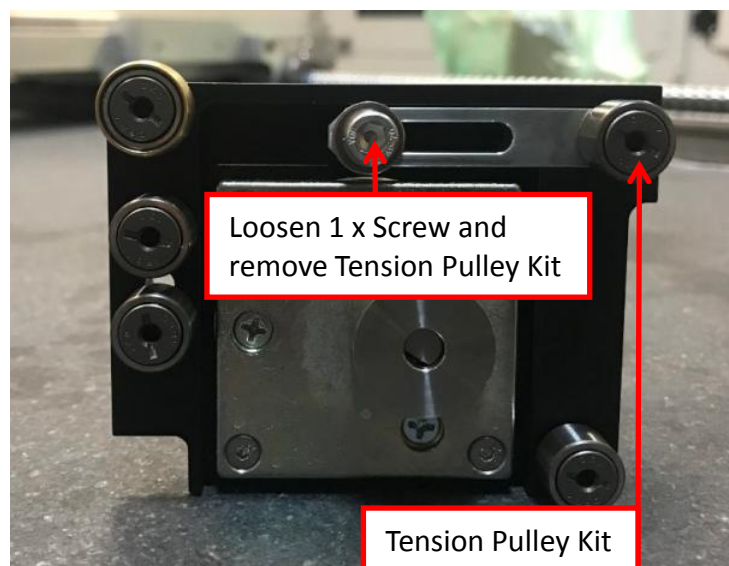

Figure 5 Tension Pulley Kit
5. Loosen 1 x Screw from Tension Pulley Kit as Figure 5. Remove Tension Pulley Kit & Conveyor Motor as shown in Figure 5 to Figure 7
Remarks : Re-use item in Figure 5 ~ 7 upon replacement